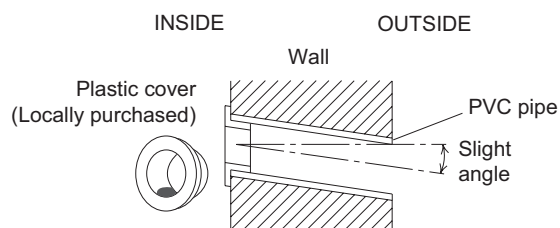

Fig. 2-196
- (6) Place the plastic cover over the end of the pipe (for indoor side only) and insert the pipe in the wall. (Fig. 2-196)